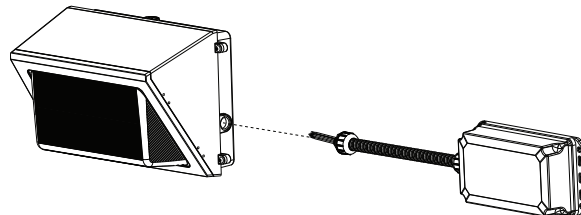

Fig. 26
2. Open the fixture and insert the wires and watertight connector into the KO hole. (See Fig. 26)